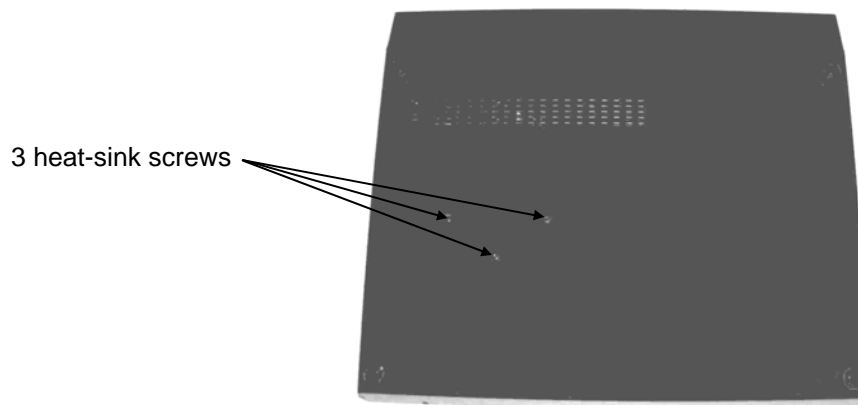

fig.4
- 1) Turn the console base over to reveal underside. Referring to fig.4 remove the 3 heat-sink screws.